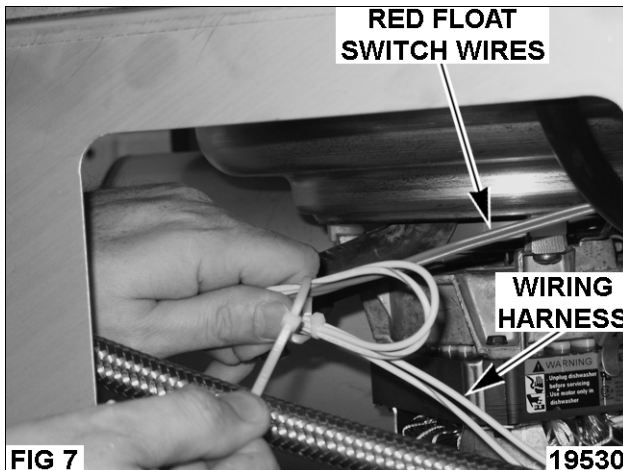

FIG 7 19530
7. Use a wire tie to bind the wiring harness to the red float switch wires to ensure it is not lying on the bottom of the dishwasher per Fig. 7.